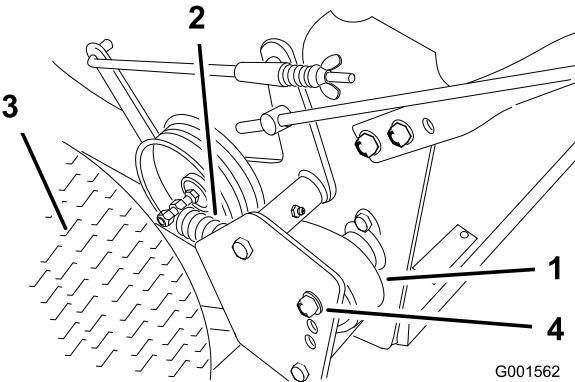

Figure 31
1. Remove hairpin cotter securing brake rod to brake arm to relax belt idler tension (Figure 31).
2. Remove bottom and loosen top bolts of shield to rotate for belt clearance (Figure 31).
3. Lift the belt past idler and off the drive pulley (Figure 31).
6. Secure shield with previously removed bolt and tighten bolts (Figure 31).
7. Secure brake rod to brake arm with hairpin cotter (Figure 31).